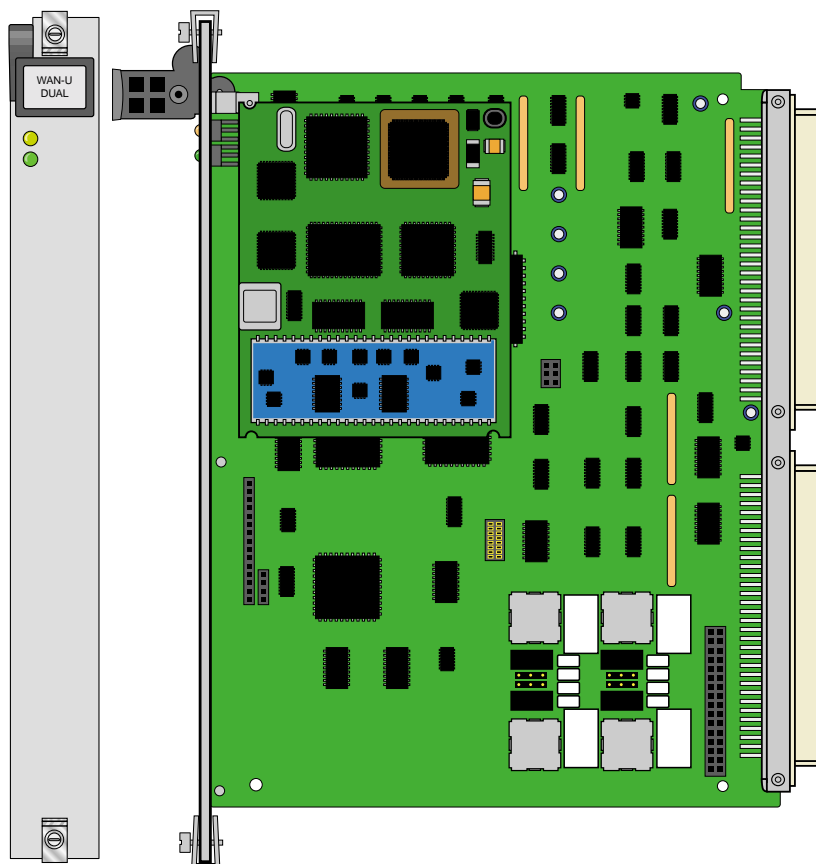

Figure 7-10. WAN-U DUAL Card (801160)
The WAN-U card is a dual-port card that provides HDSL 2.048 Mbps (E1) service when used with E1/HDSL plug-in modules (see Figure 7-10). **Only use the Adtran E1/HDSL module (820) with this card.**